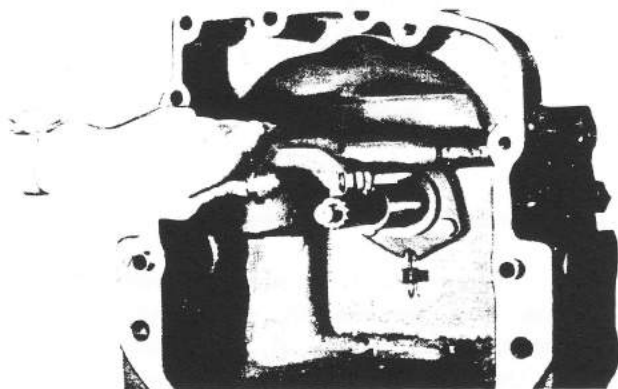

Fig. 12 Removal of Shaft
3. Pull out the shaft, referring to Fig. 12.